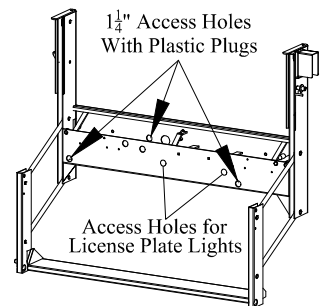

Figure 6: Light kit access holes.
### 5. Remove plastic plugs from access holes (Figure 6).
**4. Mount** the license plate lights and license plate light brackets if they are not already mounted (Figure 6).
1. Pull two 3-prong tail light plugs and a 2-prong tail light plug through each 1¼" front access hole (Figure 6 or 9).
4. Secure the grommets inside the 1¼" holes (Figure 6 or 9).